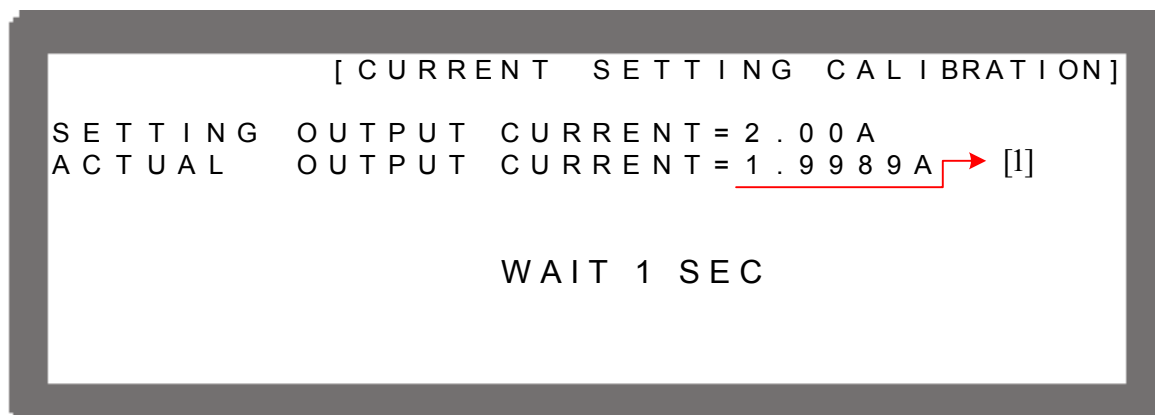

Figure 3-112
5. Press ENTER the system will set the output current to 2.00A automatically and appear second reading screen. Once the reading is done, the cursor will stop at position [1] as Figure 3-112 shows. Input the current (4 digits after decimal point) read by Current Shunt (DVM) and press "**ENTER**" to confirm.